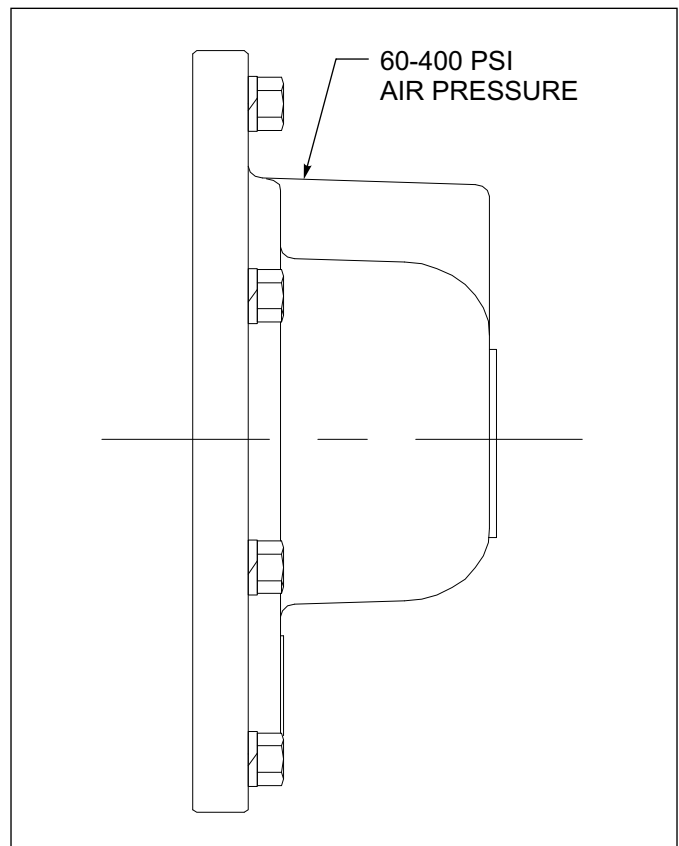

Figure 3-9: Air/Hydraulic Kickout
3. The air freespool clutch is operated by application of air pressure to the fitting supplied on the winch gearbox housing (**See Figure 3-9.**) The fitting is designed to accept 1/4" rigid plastic tubing.